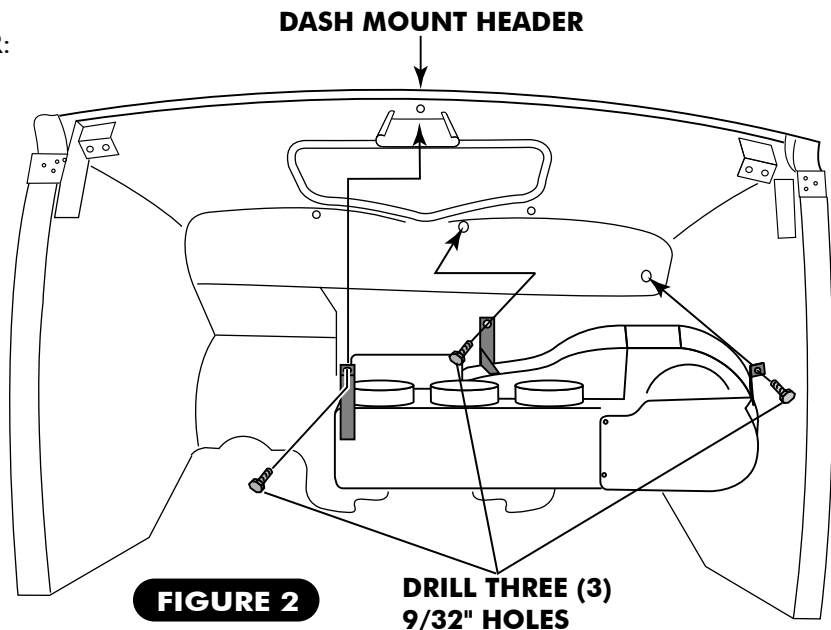

FIGURE 2
3. BRACKETS ARE FURNISHED TO MOUNT THE EVAPORATOR CASE. ATTACH TO FIREWALL AS SHOWN IN FIGURE 2.
4. THE COWL VENT HANDLE WILL WORK IF MOVED TO THE SIDE. YOU CAN ALSO CONVERT TO ELECTRIC OR CABLE OPERATION. IF YOU CLOSE OFF THE COWL VENT, THE UNIT WILL FIT HIGHER IN THE CAR. NOTE: TO MOUNT UNIT HIGHER, SIMPLY DETERMINE THE NEW LOCATION, MARK AND RE-DRILL THE BRACKET TO FIT AS DESCRIBED IN STEP 6 - FIGURE 2.
- B. ATTACH REAR BRACKET TO THE EVAPORATOR, USING (2) 1/4-20 x 1/2" BOLTS.
6. HAVE A HELPER HOLD THE UNIT UP AS HIGH AS POSSIBLE, WITH BLOWER HOUSING AGAINST PASSENGER SIDE KICK PANEL. LOCATE THE BRACKET ON THE TOP RIGHT OF THE BLOWER HOUSING. SCRIBE THRU THE 1/4" HOLE IN THE BRACKET TO MARK THE FIREWALL. CHECK TO SEE IF THE LOCATION YOU MARKED LOOKS CORRECT AND WILL CLEAR OBSTRUCTIONS ON BOTH SIDES OF THE FIREWALL. IF SO, DRILL A 9/32" HOLE IN THE FIREWALL. ATTACH THE EVAPORATOR TO THE FIREWALL BY THE BLOWER MOTOR BRACKET WITH A 1/4-20 x 1" BOLT AND NUT. LEVEL THE EVAPORATOR UNIT, AND USE THE 1/4" HOLE IN THE BRACKET TO THE FIREWALL WITH A 1/4-20 x 1" BOLT. THIS WILL LOCATE THE EVAPORATOR HORIZONTALLY. NOW SECURE THE FRONT EVAPORATOR SUPPORT STRAP TO THE UNIT WITH THE SUPPLIED 1/4-20 x 1/2" BOLT. THIS SUPPORT BRACKET WILL ATTACH TO THE DASH MOUNT HEADER. WITH THE UNIT HELD IN PLACE (PLUMB AND LEVEL), MARK THRU THE 1/4" HOLE AT THE TOP OF THE BRACKET TO THE SHEET METAL HEADER. MAKE SURE THAT THE SPOT MARKED WILL PROVIDE A GOOD MOUNTING LOCATION FOR THIS BRACKET. DRILL 9/32" MOUNTING HOLE. SECURE THE MOUNT STRAP TO THE COWL HEADER AS SHOWN IN FIGURE 2 WITH A 1/4-20 x 1" BOLT AND NUT.